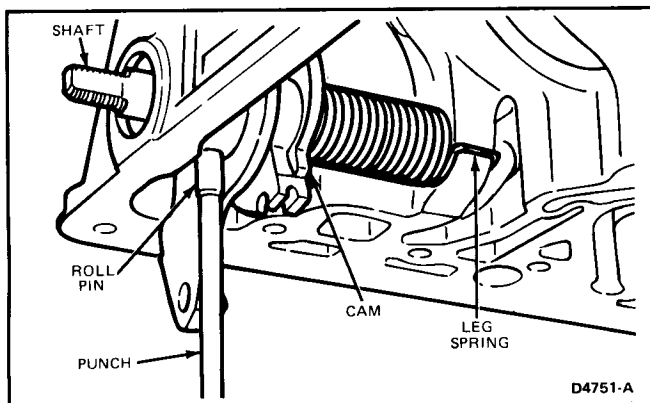

FIG. 17 Roll Pin—Removal
- Punch out the roll pin from the detent plate and manual lever shaft (Fig. 17).